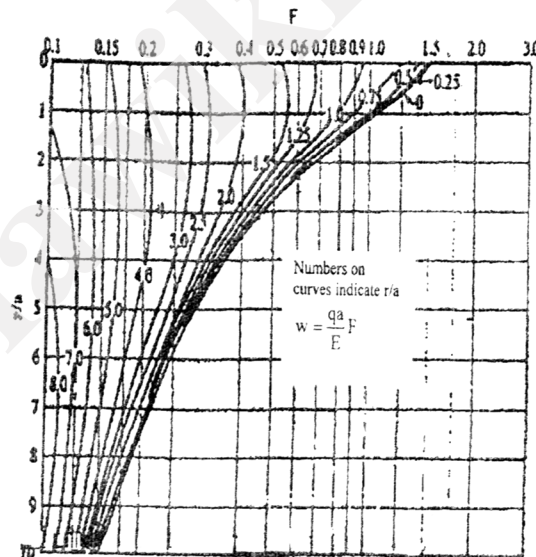

Fig. Q2(c)
- c. A dual wheel load assembly with 70 kN load on each wheel and contact pressure of 0.7 N/mm^2 is applied on a homogeneous mass with modulus of elasticity 12 N/mm^2 . If the centre to centre distance between the two wheels is 600 mm, determine the deflection value at a depth of 0.5 m at four points, at the centre of dual wheels, and at radial distances of 300, 600 and 900 mm from this centre along the line joining centers of the two wheel loads. Use deflection factor chart Fig. Q2(c). (08 Marks)